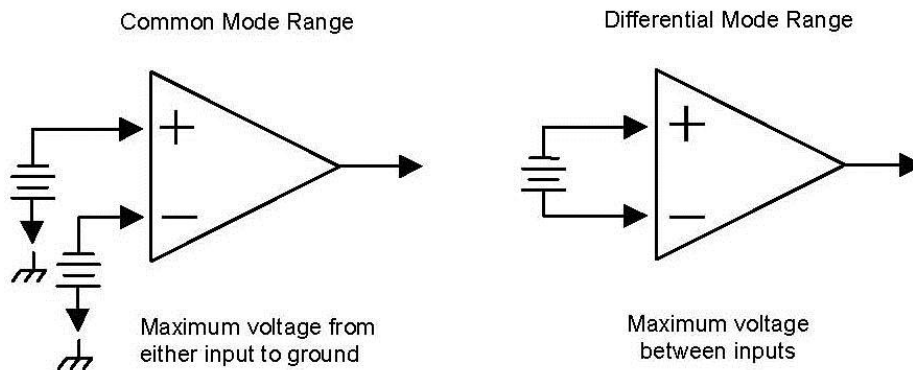

Figure 11, Common Mode and Differential Mode Range
11. Adjust Offset (R330) to bring the trace back to exactly center screen. (See Figure 11.)
9. Adjust GAIN (R322C) so that the DMM reading is within  $\pm 1$  mV (0.5%) of the reading recorded in step F-6. (See Figure 11.)